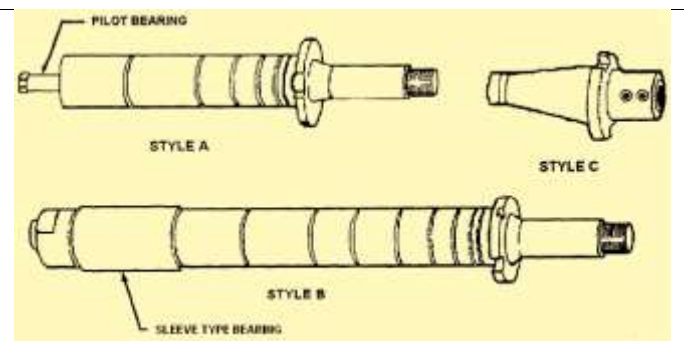

Figure 8-13. Typical milling arbors.
**Arbor Styles:** Arbor “**Style A**” has a cylindrical pilot on the end that runs in a bronze bearing in the arbor support. This style is mostly used on small milling machines or when maximum arbor support clearance is required. Arbor “**Style B**” has one or more bearing collars positioned to any part of the arbor, close to the cutter to-obtain rigid setups in heavy duty milling operations. Arbor “**Style C**” is used to mount the smaller size milling cutters, such as end mills that cannot be bolted directly on the spindle nose. Use the shortest arbor possible for the work. (Figure 8-13).